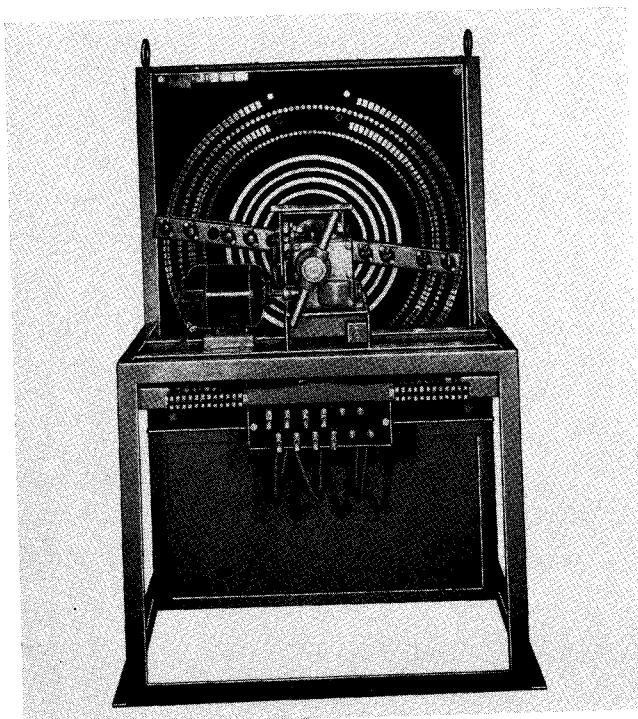
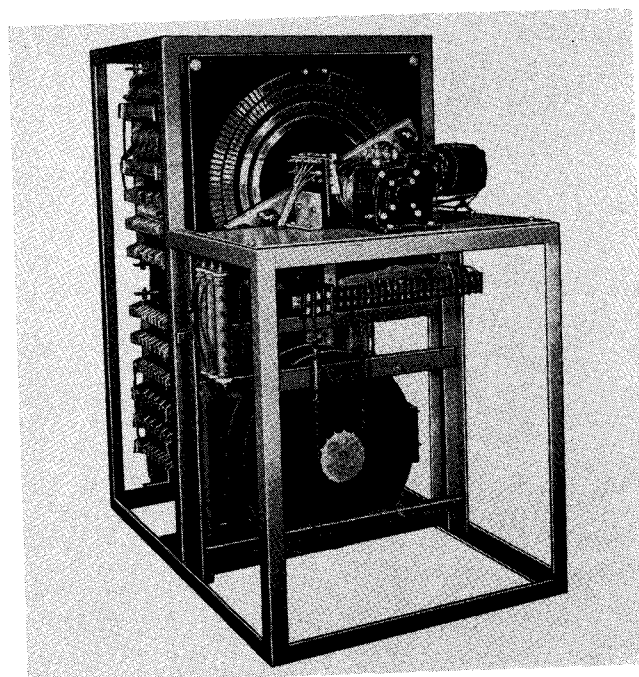
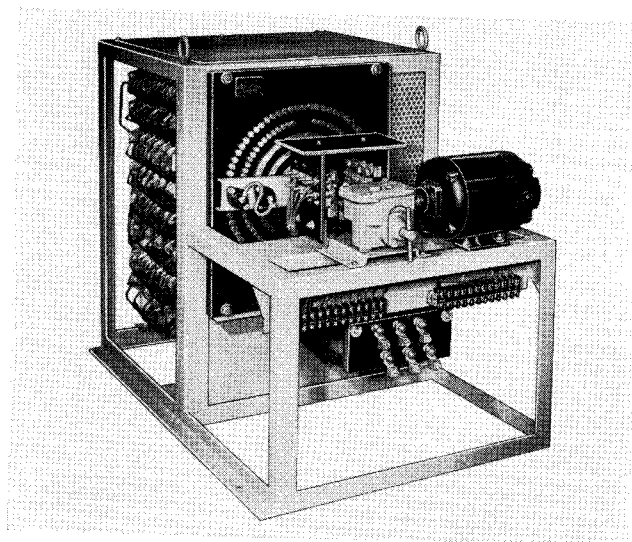
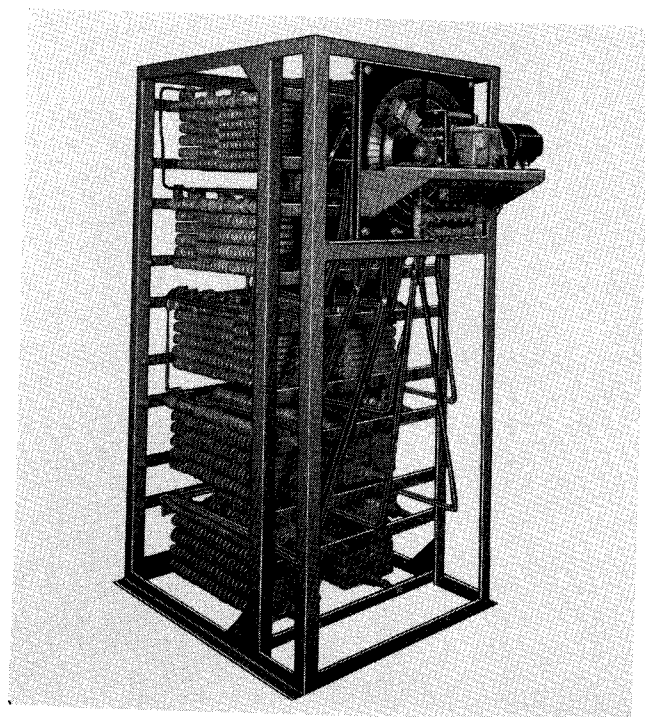

FIG. 1. Type SM Rheostat
FIG. 2. Type PH Rheostat
FIG. 3. Type SO Rheostat
FIG. 4. Type JA Rheostat
M.O. rheostats to be discussed in this I.L. are the types SM (Fig. 1), PH (Fig. 2), SO (Fig. 3), JA (Fig. 4), and JO (Fig. 7). Figures shown are typical. All of these types mount face plates and have